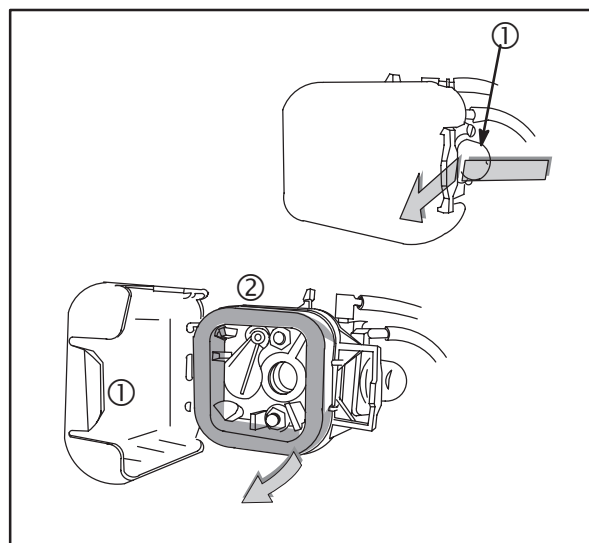

Fig. 3
1. Push cover tab to release air cleaner cover (1), Fig. 3.
2. Remove filter (2).